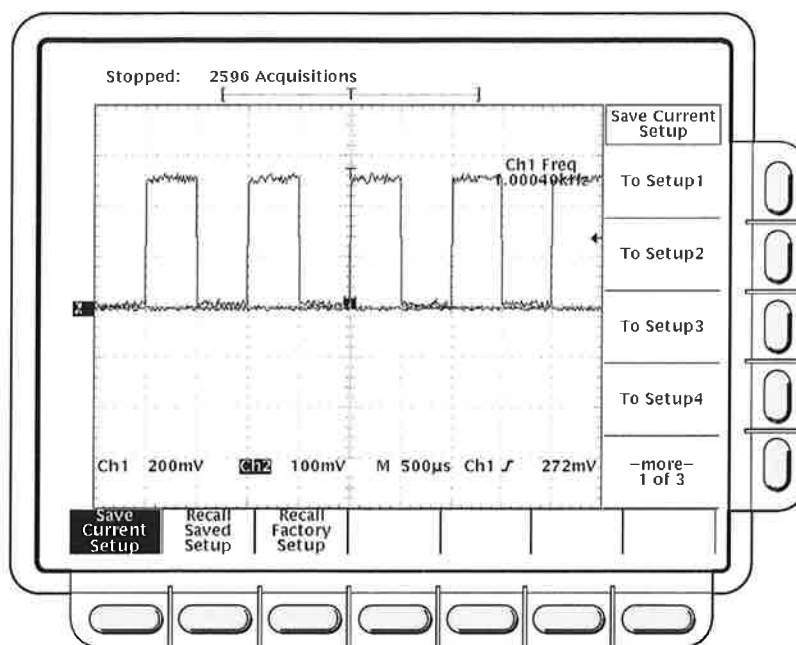

Figure 1-18: Save/Recall Setup Menu
6. Press **SETUP** → **Save Current Setup** (main) to display the Setup main menu (see Figure 1-18).